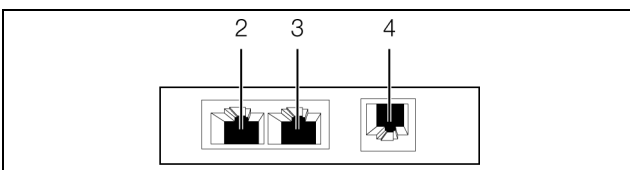

Fig. 7: Rear of the CAN bus sensor
- Connect one of the following CMC TC sensors to the appropriate connection (fig. 7, item 4).
- Use a CAN bus connection cable to connect the CAN bus sensor to a CAN bus interface on the CMC III Processing Unit or of the neighbouring component on the CAN bus (fig. 7, item 2).
- If necessary, connect another component (e.g. another sensor type) to the second, free CAN bus interface of the CAN bus sensor (fig. 7, item 3).